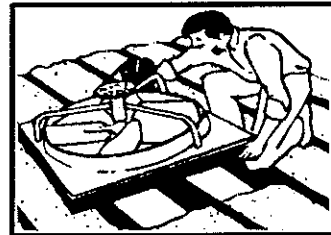

Figure 10
8. Lift the fan through the opening into the attic being careful not to damage the sheetrock. Set fan on the joist, centered over the opening per Fig 10. When mounting the fan on joists spaced too wide to support the corner of the venturi under the motor, nail a header between the two joists located to support this corner of the fan.